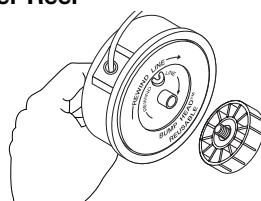

Fig. 12
1. Hold the outer spool with one hand and unscrew the Bump Knob™ **counterclockwise** (Fig. 12). Inspect the bolt inside the Bump Knob to make sure it moves freely. Replace the Bump Knob if damaged.